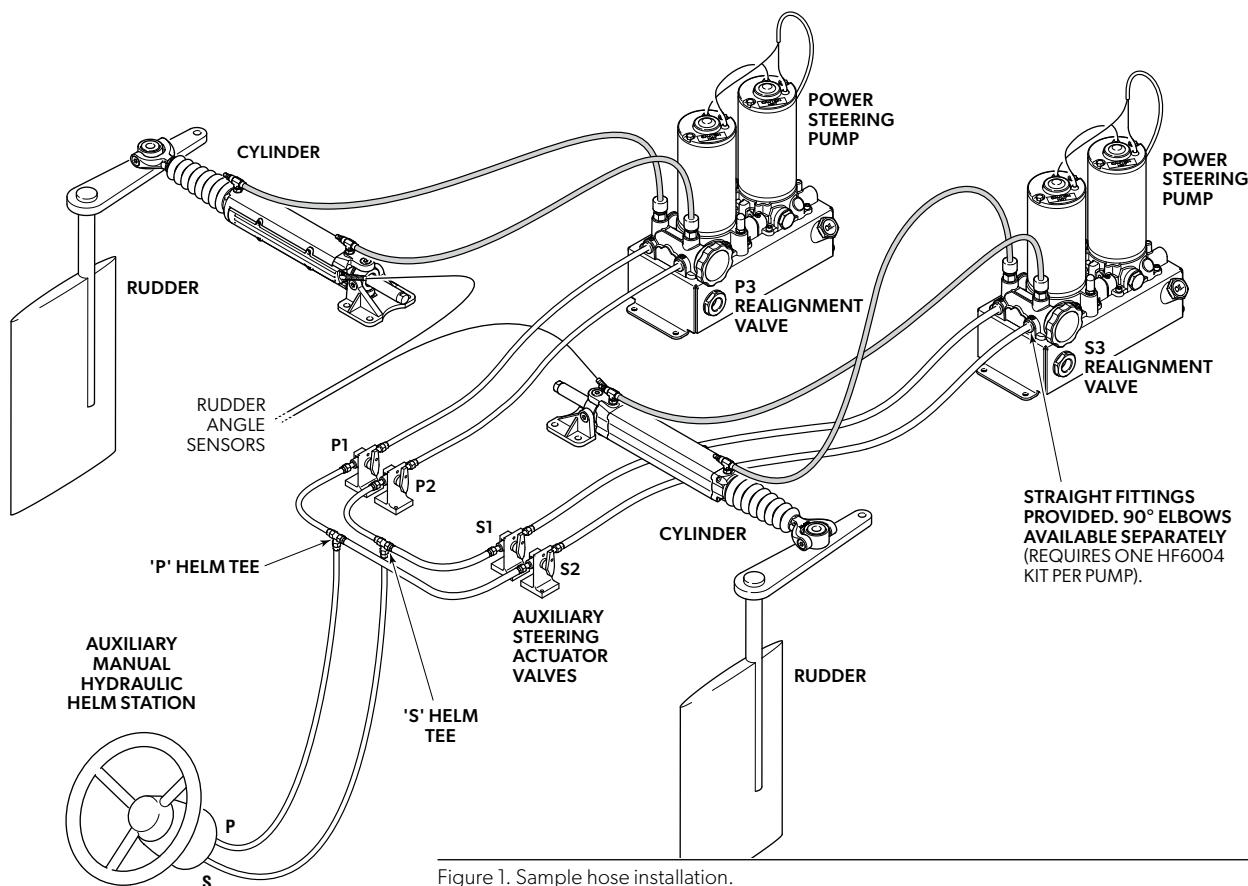

Figure 1. Sample hose installation.
- Fittings for plumbing the system as illustrated in figure 1.
5. Connect the hoses. A sample installation is shown in figure 1. Your hose connections from the auxiliary helm to the steering pump may need to be reversed, depending on the configuration of your steering cylinders and tillers.